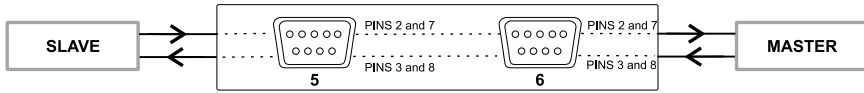

Figure 2: Bi-directional Signals II
- When a Master device changes position with a Slave device, the pins automatically change, as section 3.1.6 describes and as Figure 2 illustrates: